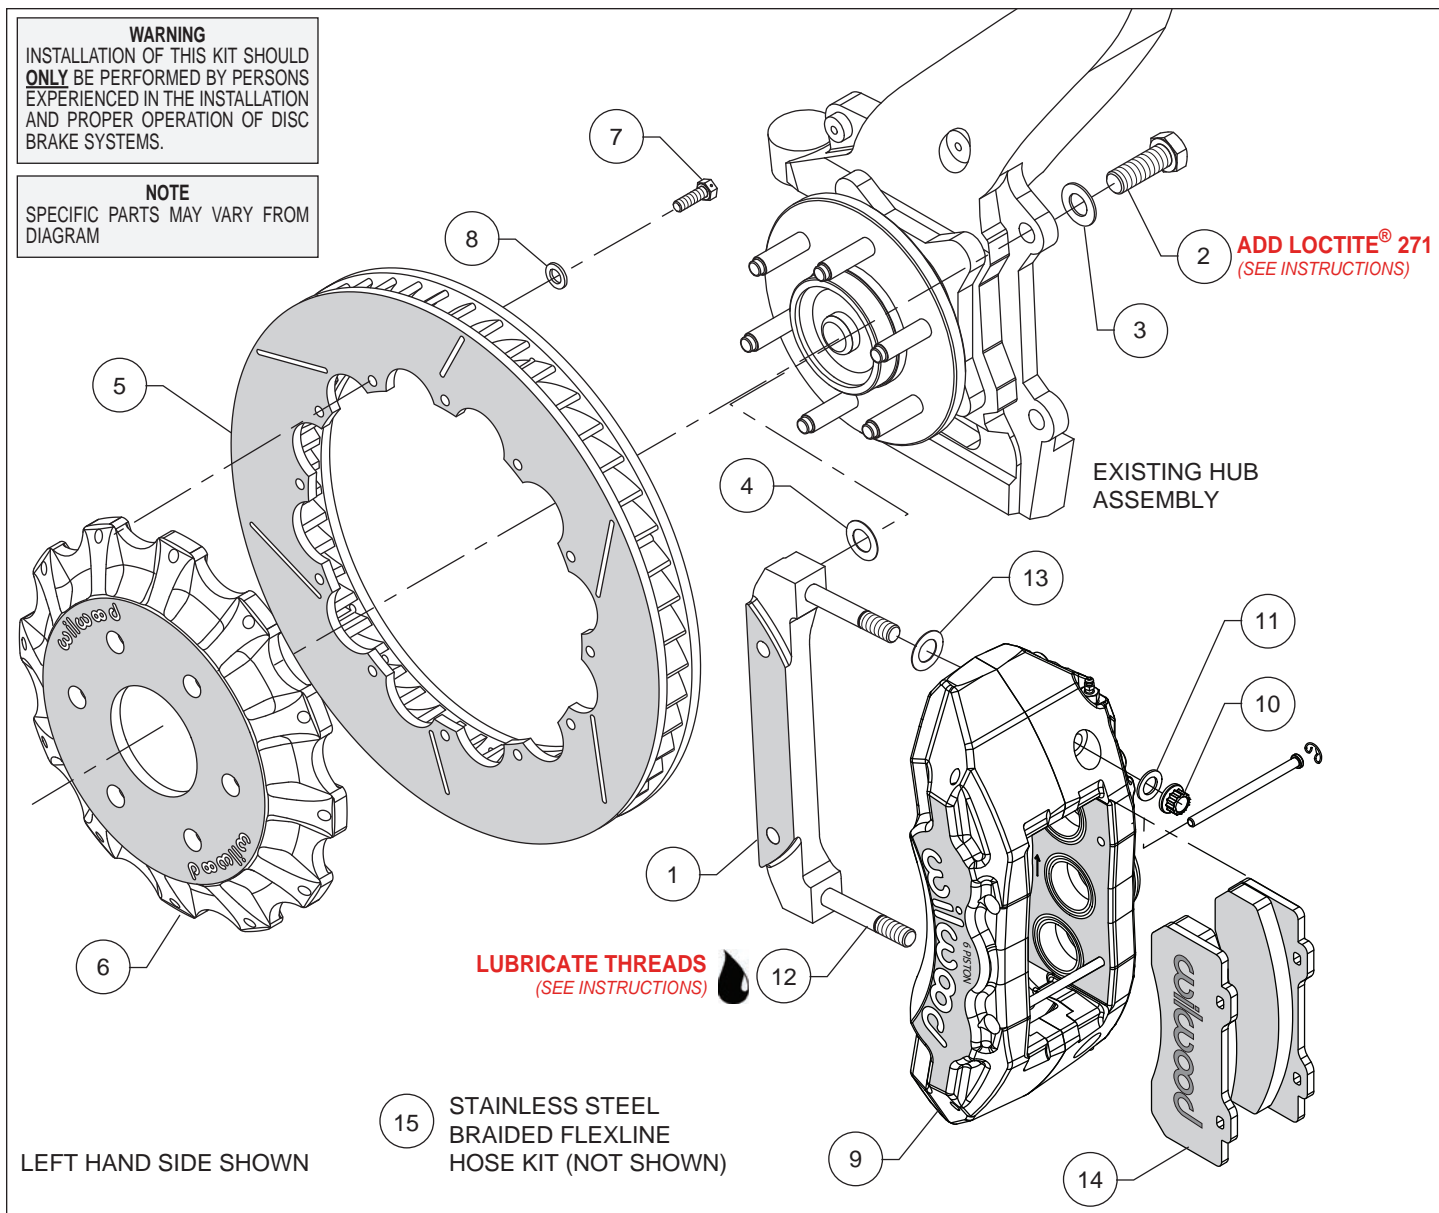
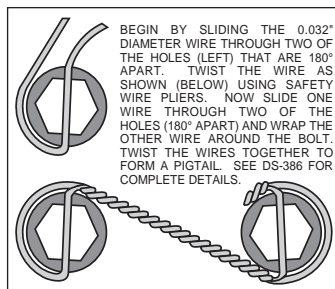

Figure 1. Typical Installation Configuration
Figure 3. Safety Wire Diagram
**Assembly Instructions** (numbers in parenthesis refer to the parts list and Figure 1 on the preceding pages):
- The caliper mount bracket (1) should initially be installed with clean, dry threads on the mounting bolts. Orient the bracket as shown in Figure 1 and Photo 1, and install using bolts (2) and washers (3). Initially place one .029 thick shim (4) on each bolt between the bracket and upright, Figure 1. Temporarily tighten the mounting bolts. **NOTE:** *The bracket must fit squarely against the mount bosses on the upright.* Inspect for interference from casting irregularities, machining ridges, burrs, etc. Later, after the caliper alignment has been checked, the mount bolts will be secured using red *Loctite*® 271.
- Orient the rotor (5) and the hat (6) as shown in Figure 1 and Photo 2. Attach rotor to hat using bolts (7) and washers (8). Using an alternating sequence, torque to 25 ft-lbs. For an added measure of security, the bolts may be safety wired using standard 0.032 inch diameter stainless steel safety wire as shown in Figure 3. Refer to Wilwood's data sheet DS-386 (available at [www.wilwood.com/Pdf/DataSheets/ds386.pdf](http://www.wilwood.com/Pdf/DataSheets/ds386.pdf)) for complete safety wire installation instructions.
- NOTE:** *This kit contains distinct right and left hand calipers that must be mounted in a specific direction, as described below.* Lubricate the caliper mounting studs (12) with lightweight oil. Mount the caliper (9) onto the bracket (1) using lock nuts (10) and washers (11), Figure 1. Ensure that the caliper is mounted so that the largest pistons are at the rotor exit end of the caliper, in relation to the direction of rotor rotation. Temporarily tighten the lock nuts and view the rotor through the top opening of the caliper. The rotor should be centered in the caliper, Photo 3. If not, adjust by adding or subtracting shims (4) between the bracket and the upright. Always use the same amount of shims on each of the two mounting bolts. Once the caliper alignment is correct, remove the bracket mounting bolts (2) one at a time, apply red *Loctite*® 271 to the threads, and torque to 77 ft-lb.